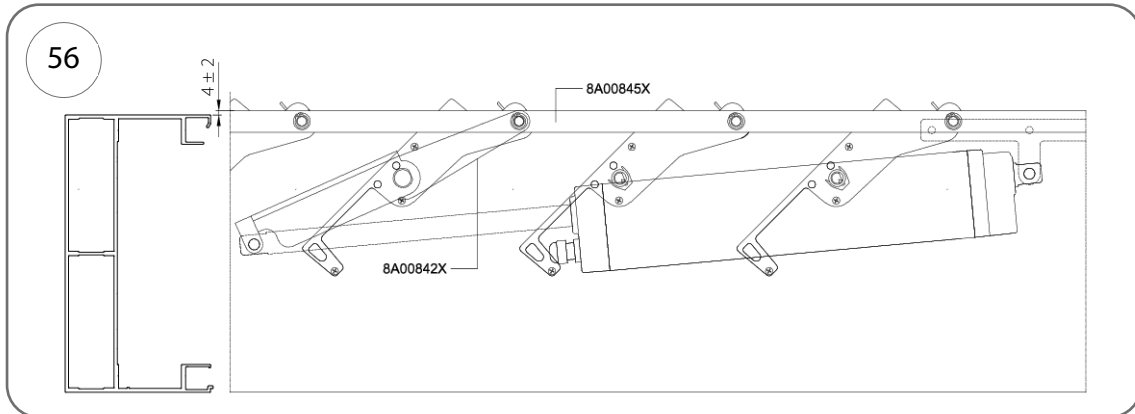

Fig. 56
2. Set the open end position in accordance with Fig. 56.